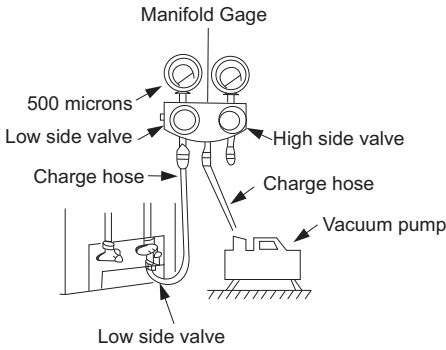

Fig. 19 – Manifold
3. Fully open the low side of manifold gage. (See Fig. 19)